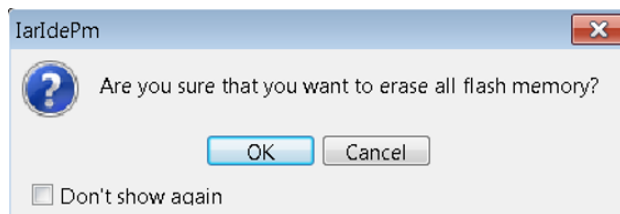

Figure 39. Erase All Flash Memory
5. The window shown in Figure 39 then appears. Press **OK**.